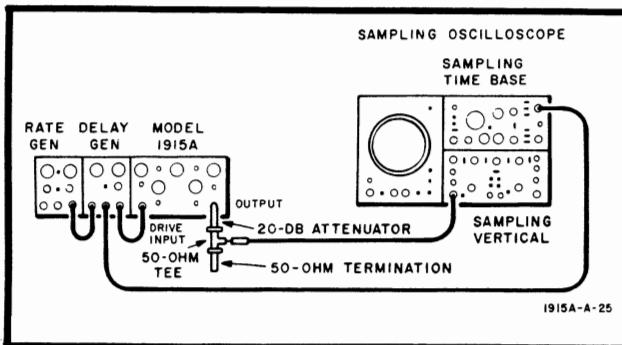

Figure 5-9. Sampling Oscilloscope Test Setup
- Connect equipment as shown in Figure 5-9.